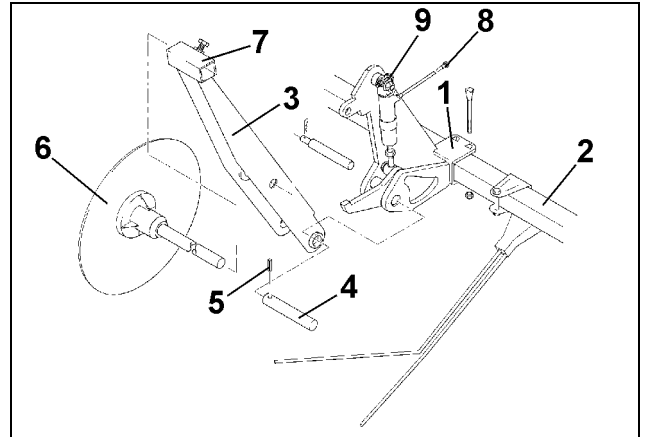

Fig. 115
- Attach two fixing brackets (Fig. 115/1) to the extra coverage following harrow
- Mount the marker disc carrier arm (Fig. 115/3) by means of the pins (Fig. 115/4) and expansion pin (Fig. 115/5) and secure.
- Insert the marker discs (Fig. 115/6) into the marker disc carriers (Fig. 115/3) and clamp by using hex. bolts (Fig. 115/7).
- Connect the hydraulic hoses (Fig. 115/8) to both hydraulic rams (Fig. 115/9) and connect together with the hydraulic ram for the tramline shutter inside the distributor head with the electr.-hydraulic valve.